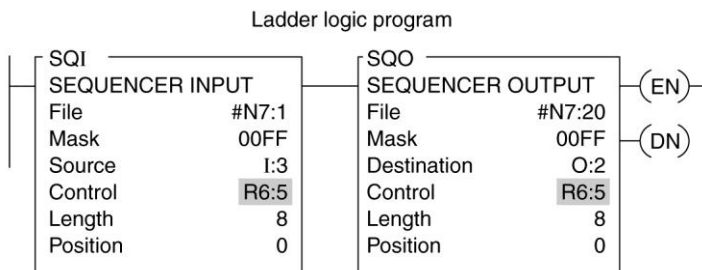

Figure 12-9 Sequencer input and output instructions for question 16.
16. When the SQI instruction is paired with the SQO instruction, as illustrated in Figure 12-9, 16._____